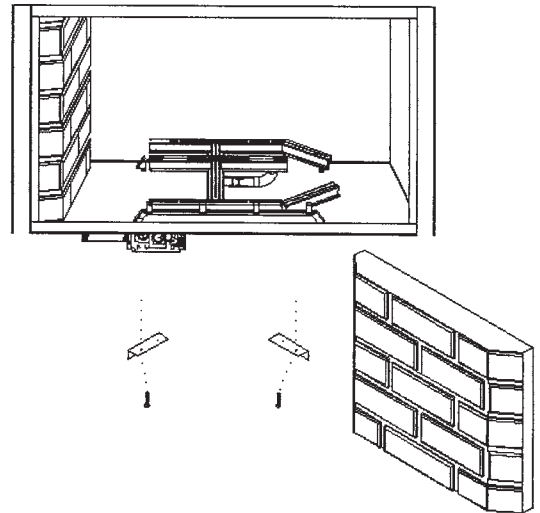

FIGURE 2
2. Remove Side Panel(s) from inside of Firebox. (See **Fig.2** at bottom of page).
1. Slide Side Panel(s) into place (See **Fig.2** below). Ensure fibre rope is on top.
DO NOT force up or sideways, as this may damage Venturi. FIGURE 2.